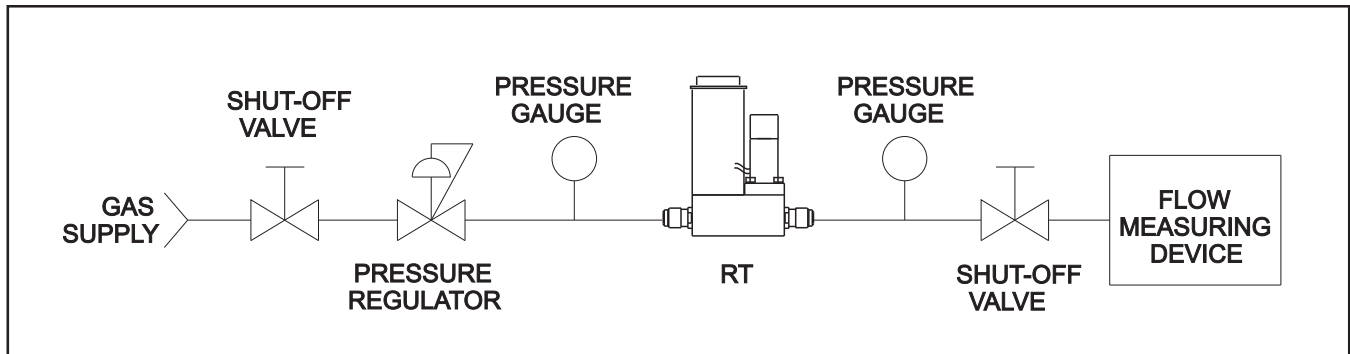

Figure 4-1 Bench Troubleshooting Circuit
1. Insufficient pressure drop across the MFC (low or no pressure). If there is not enough pressure differential across the MFC, it is impossible for the MFC's valve orifice to pass the full scale flow rate. To check for this condition, compare the actual inlet/outlet pressure drop as read from pressure gauges with that specified on the order (shown in Figure 4-1). Increase the pressure if necessary.